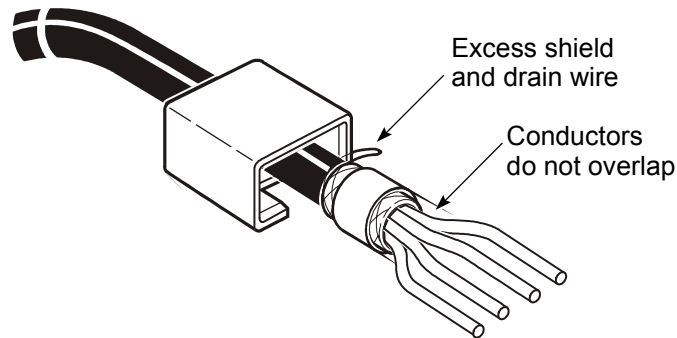

Figure 39 – Preparing the conductors for crimping
3. Arrange the conductors so they are parallel when they come out of the cable jacket; see *Figure 39*.